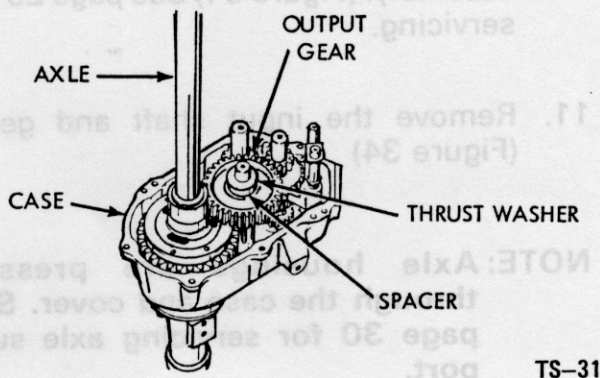

Figure 31 - Output Gear and Shaft
6. Remove washer, spacer, spur gear and output shaft, (Figure 31) from case.